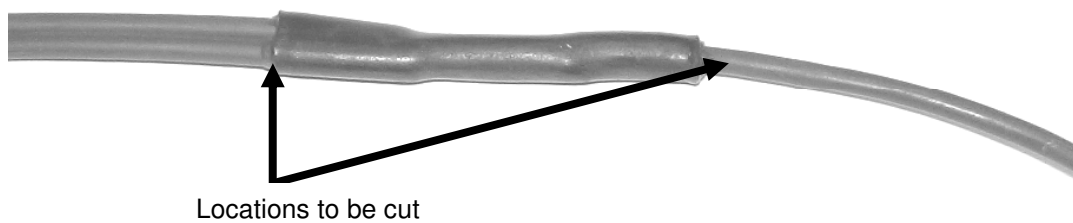

Figure 3
4. Locate the area of the brown wire in pin # 13 where the two brown wires join. This section has approximately 1.5" of heat shrink. Cut the wires on both sides of the heat shrink. Discard the brown wire with the 90 degree flag terminal attached. See figure 3.